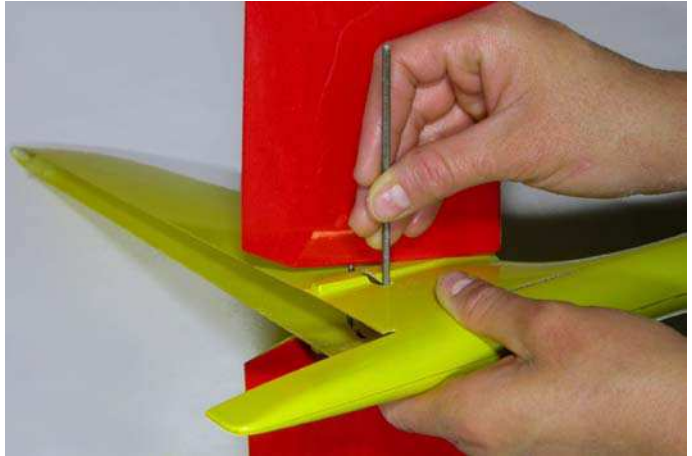

Fig.27: Remove the excess part.
- using a file (round section), eventually remove the excess part (see figure 27);